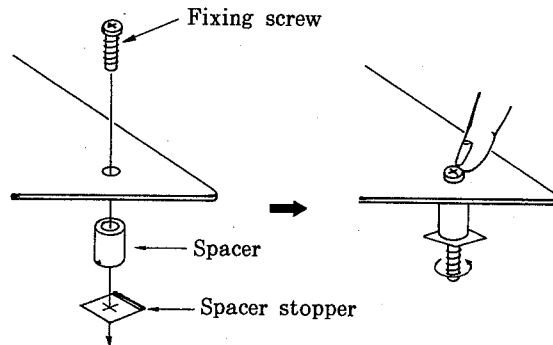

Fig.17
- (9) Attach the fixing screws, spacers, and spacer stoppers (each 4 pcs.) to the bubble memory board. (See Fig.17.)
- Press the fixing screw head with finger, turn the spacer stopper to fix the spacer. (See Fig.17.)